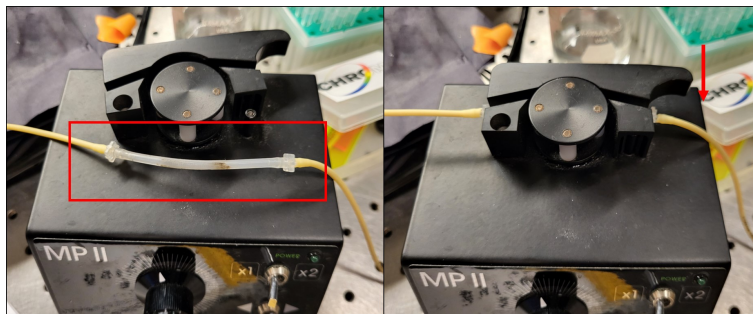

Figure 4: Proper installation of the perfusion line.
3. Put the pump tubing section into the peristaltic pump and secure it. See Figure: 4.